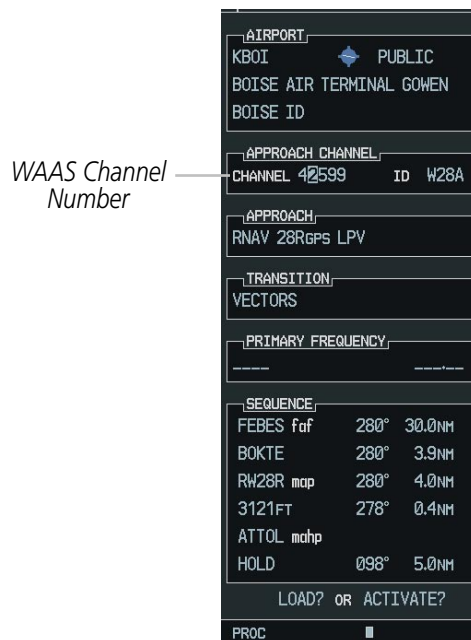

Figure 5-93 WAAS Channel Selection
- 1) From the Approach Loading Page Window, highlight the 'CHANNEL' field (Figure 5-93).